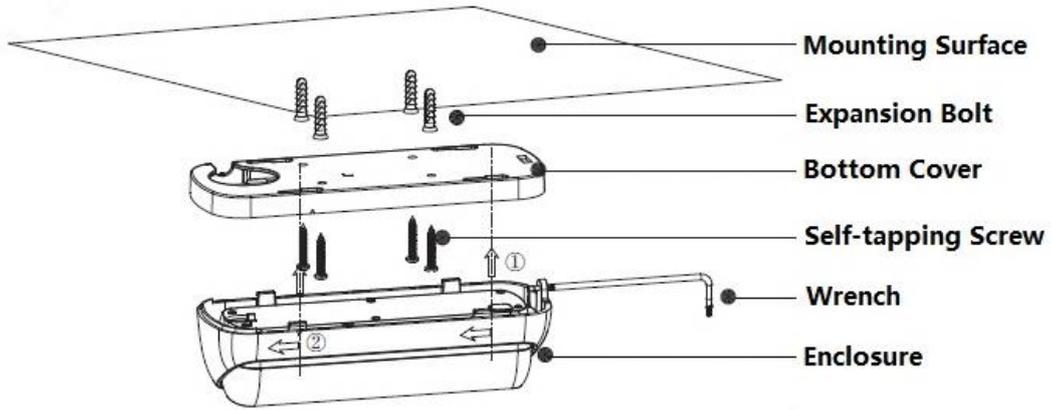
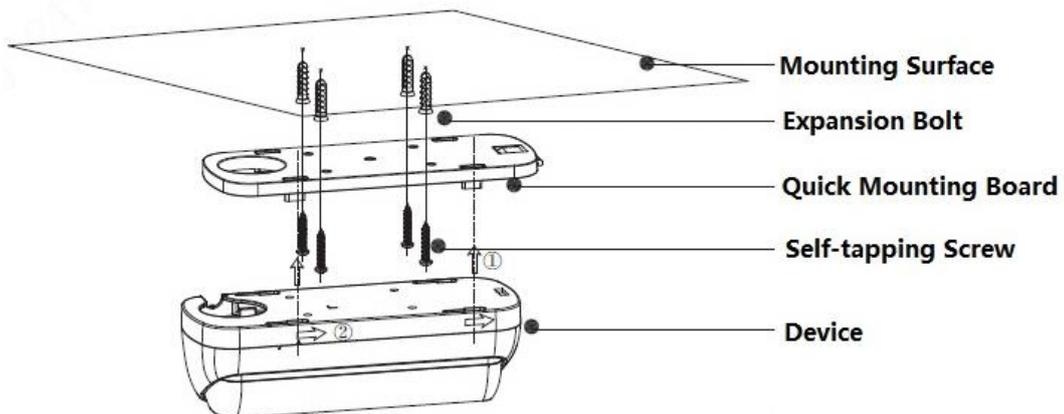

Figure 2-2
Figure 2-3
- The device supports installation via quick mounting board; you can refer to Figure 2-2 and Figure 2-3 for installation according to actual needs.